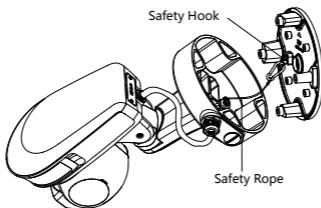

Figure 2-9 Hang the Safety Rope
- 1). Hang the safety rope of the bracket to the safety hook on the base plate as shown in Figure 2-9.